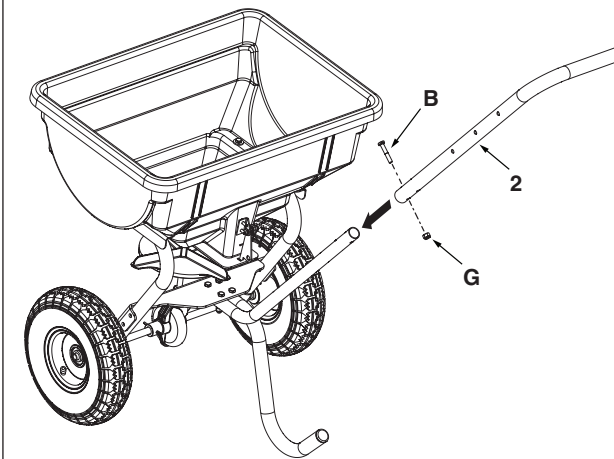

Figure 11
STEP 11: (SEE FIGURE 11)
- Attach the handle tube (2) to the lower handle tube using two 1/4 x 1-1/2" hex bolts (B) and 1/4" nylock nuts (G). Tighten hardware.